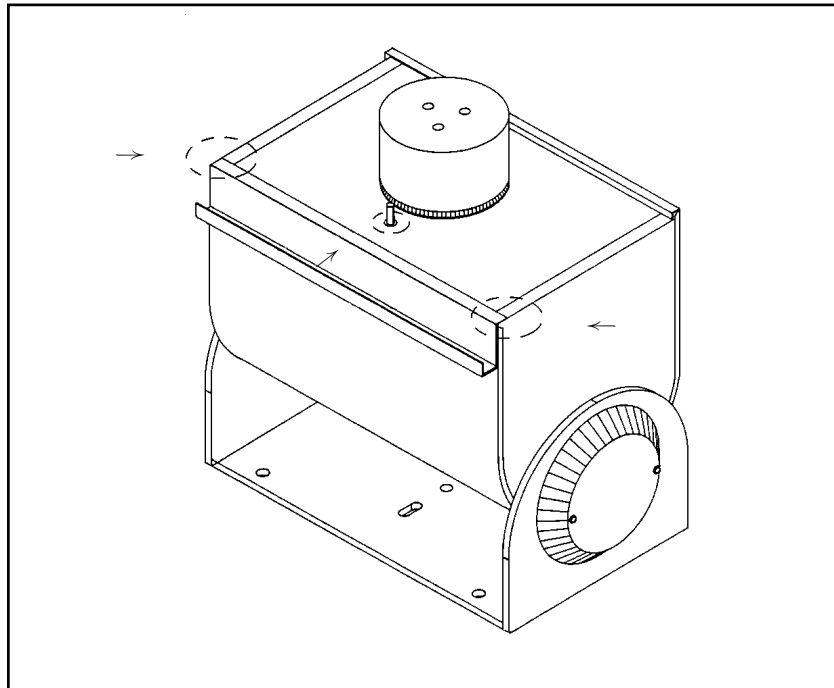

Figure 1. Sealant Locations
If your pan/tilt is installed in an inverted position, apply RTV silicone sealant to the areas circled in Figure 1 after you reinstall the cover.
4. Reinstall the cover. If the pan/tilt is installed outdoors in an inverted position, apply RTV silicone sealant as shown in Figure 1.